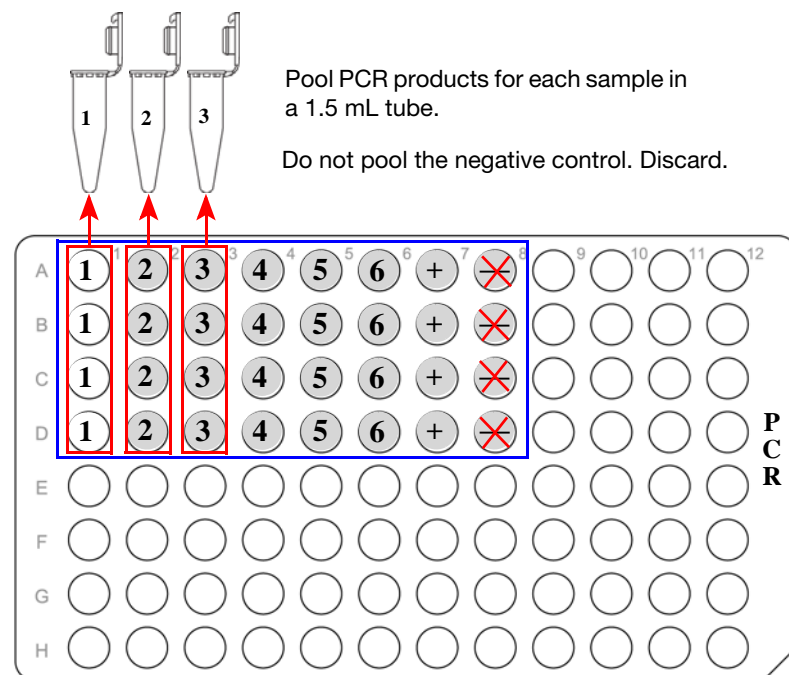

Figure 11 Pool the PCR products
5. Using a P200 single or multi-channel pipette, transfer all 4 aliquots of each sample to the appropriately marked 1.5 mL tube (Figure 11).